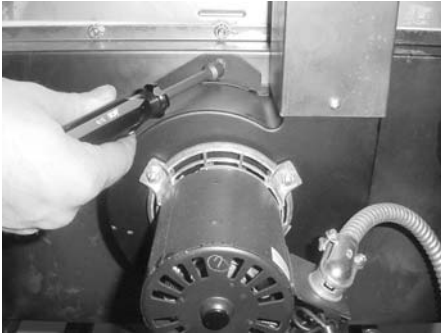

Figure 2-48
8. Using 3/8 inch nut driver, remove nuts securing blower to the unit. Figure 2-48. Pull blower from unit.